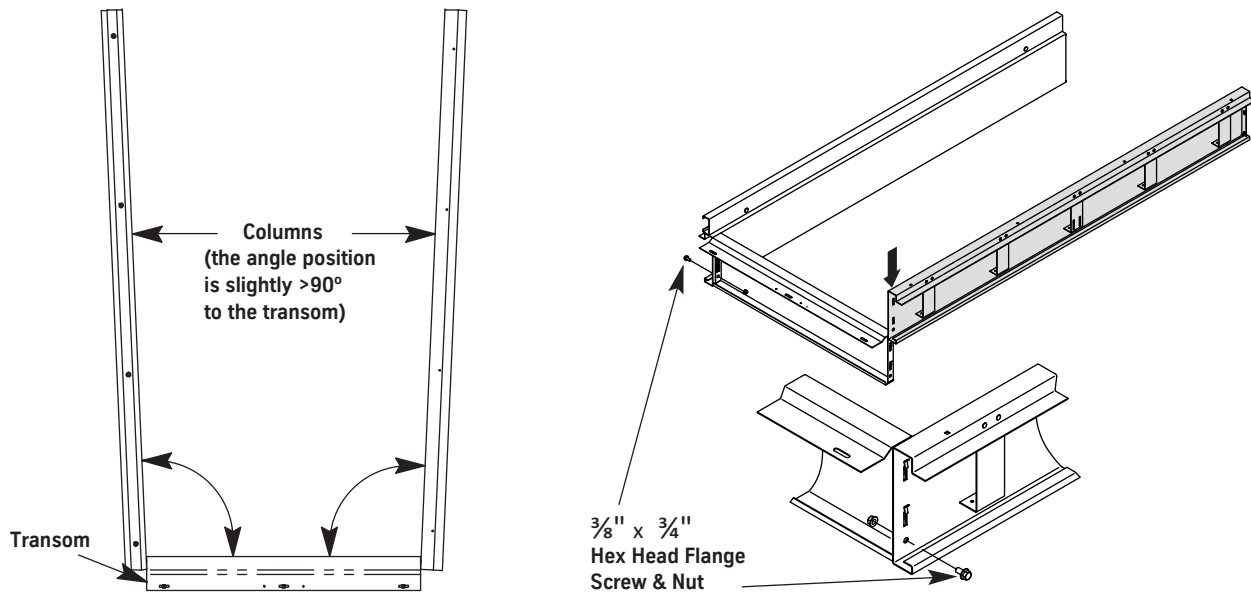

Figure 56- Assemble the Frame
1. Place the entrance columns and transom face down, and position each column at a slight angle to the transom. See Figure 56.